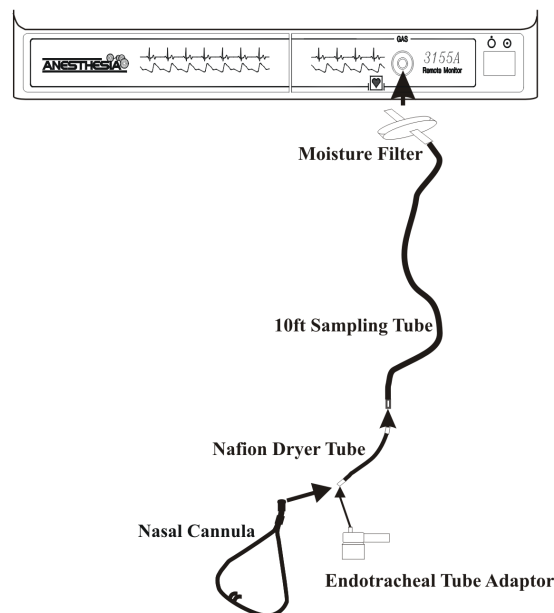

Figure 4-15. Patient Sample Circuit
- b. Perform the following to assemble the patient sampling circuit (See **Figure 4-15**):
- (1) Connect the moisture filter to the ETCO₂ connection on the monitor front panel.
- (2) Connect the 20 foot sampling tube to the moisture filter.
- (3) Connect the Nafion[®] Dryer Tube to the sampling tube (at the patient end).
- (4) Connect the Nafion[®] Dryer Tube to the endotracheal tube adaptor.